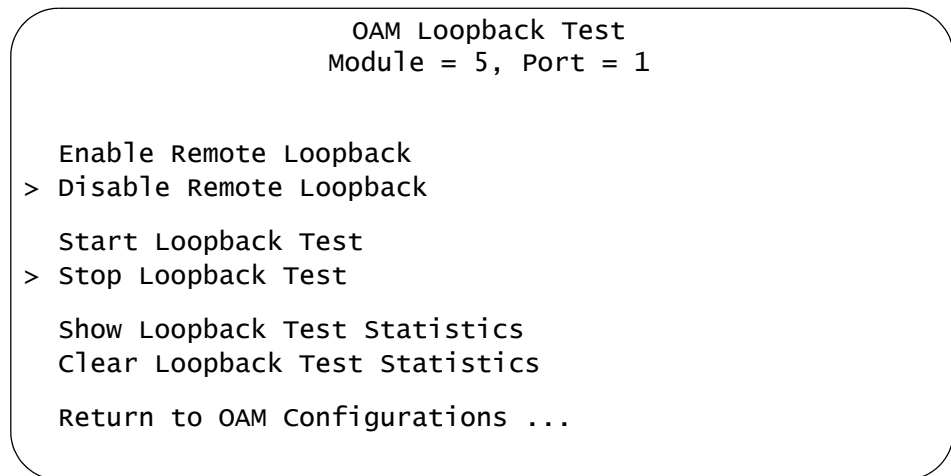

Figure 41. OAM Loopback Test Menu
8. The OAM Loopback Test Menu, as shown in Figure 41, is displayed.
8. The OAM Loopback Test Menu, as shown in Figure 41 on page 106, is displayed.